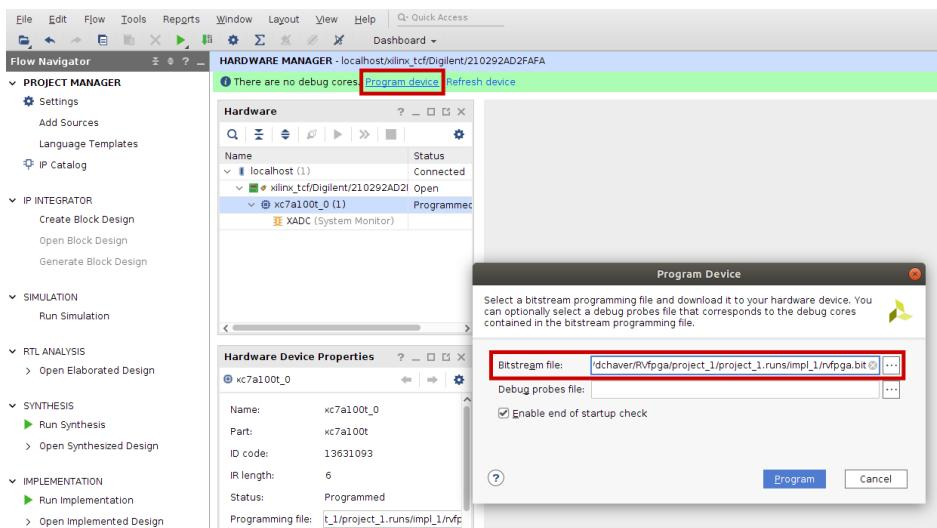

Figure 113. Program device
- Select *Program device* as shown in Figure 113. You will now load RVfpgaNexys onto the FPGA. In the new window, select the *Bitstream file* from `[RVfpgaPath]/RVfpga/src/rvfpganexys.bit`. Click *Program*.